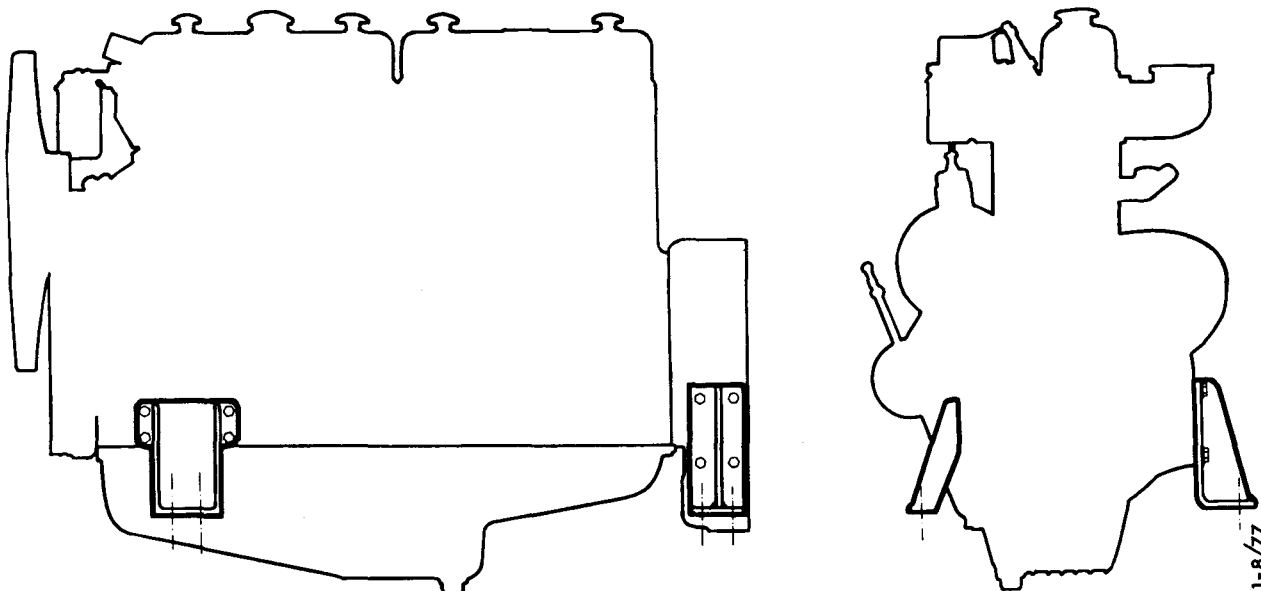

Fig. G3
c) Rigid suspension can absorb greater forces in all directions. It requires highly accurate alignment of the engine but makes no appreciable demands on the flexibility of lines and controls connected to the engine. It should only be used when the circumstances make such suspension desirable and the vibrations do not cause any major inconvenience. Even with rigid suspension, however, the vibrations can be relatively small if the mass represented by the engine bed and directly connecting parts is large in relation to that of the engine (ratio 20:1 and above). See Fig. G3.